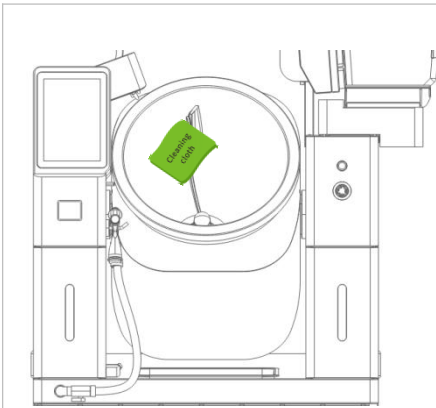

Figure 6-1 Cleaning Operation of Stirring Claws
6.1.5. Cleaning of Stirring Claws, like Figure 6-1